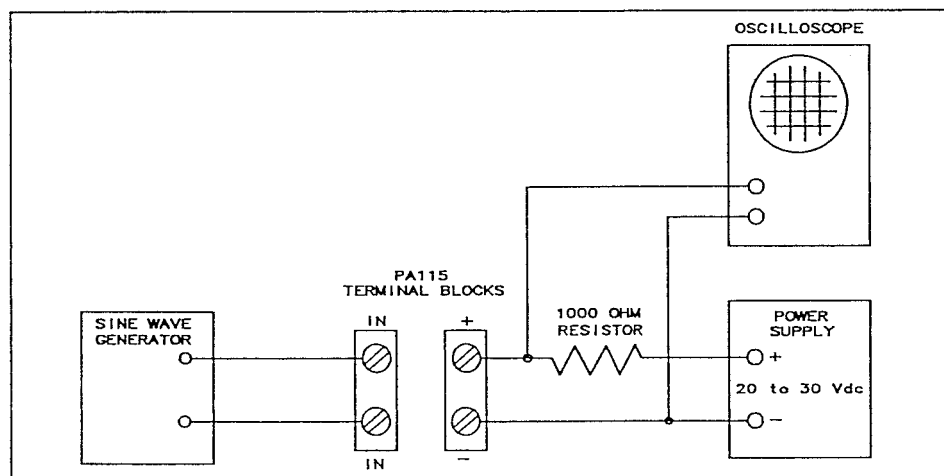

Figure 6. PA115 Test Setup
1. Connect the PA115 and the test equipment as shown in Figure 6. Set the power supply to +20 Vdc.